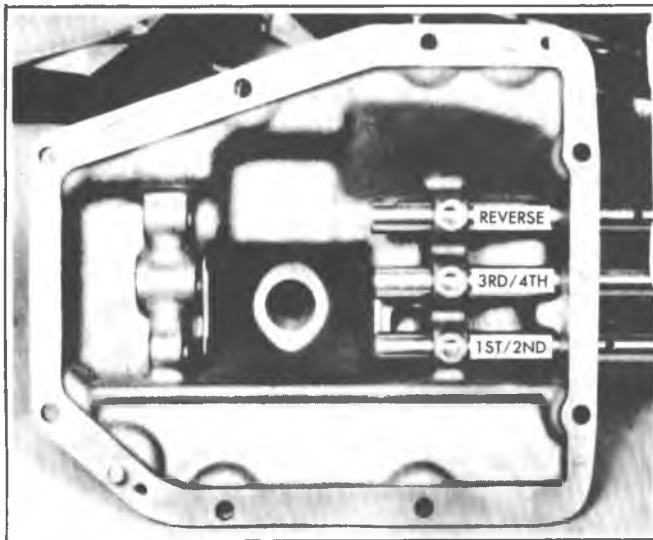

Fig. 7B-7L-Shifter Shaft Installation
4. Support front surface of retainer in press, start seal and tool in retainer bore and drive seal into retainer until flange of tool bottoms on retainer (Fig. 7B-13L).
**Disassembly (Fig. 7B-14L)**